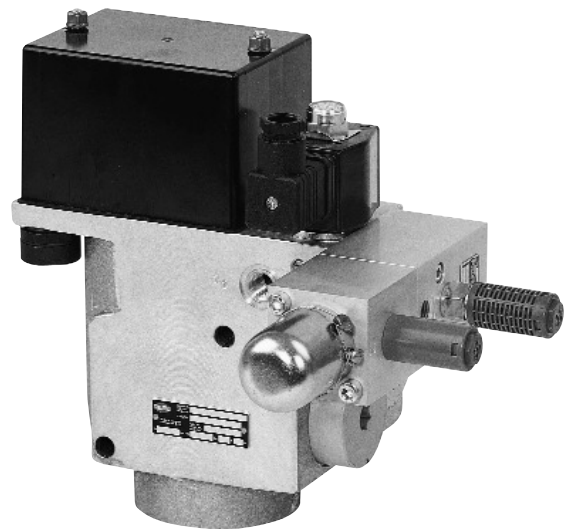

Fig. 6: Safety valve XSz with flanged damping block
The valve function “soft/hard braking” is achieved by an additional valve flanged on the port 3 (R) of the safety valve (type XS and XSz). Please see Figure 6 below.